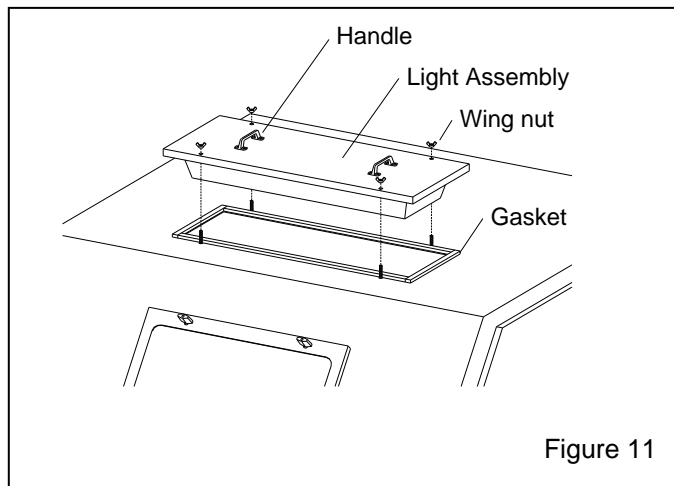

Figure 11
7.6.2.1 Remove the four holding wing nuts, and use the handles to lift the fixture off the cabinet, as shown in Figure 11.
7.6.2.3 Lay a section of strip gasket next to the opening, and cut to length, allowing 3/4" overlap on each end. Peel a short section of adhesive backing and adhere the strip gasket to the top edge of the light opening, as shown in Figure 11. Press the gasket tightly to bond. Repeat the process for each side, compressing the ends to seal.